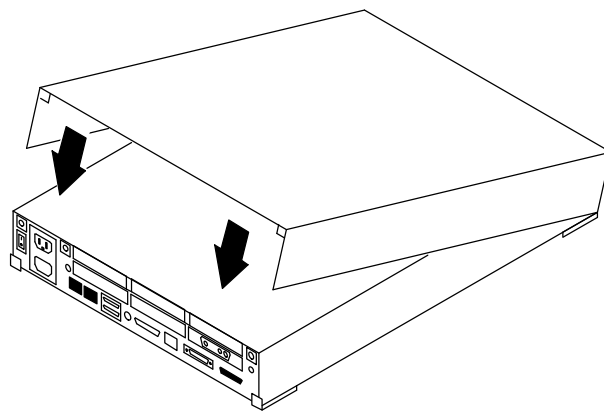

Figure 3-14. Pushing Down on the Cover Sides, Rear View
3. Guide the cover down so that the plastic retainer clip snaps the cover to the rear panel. Push down on the left and right sides of the cover. Refer to Figure 3-14.